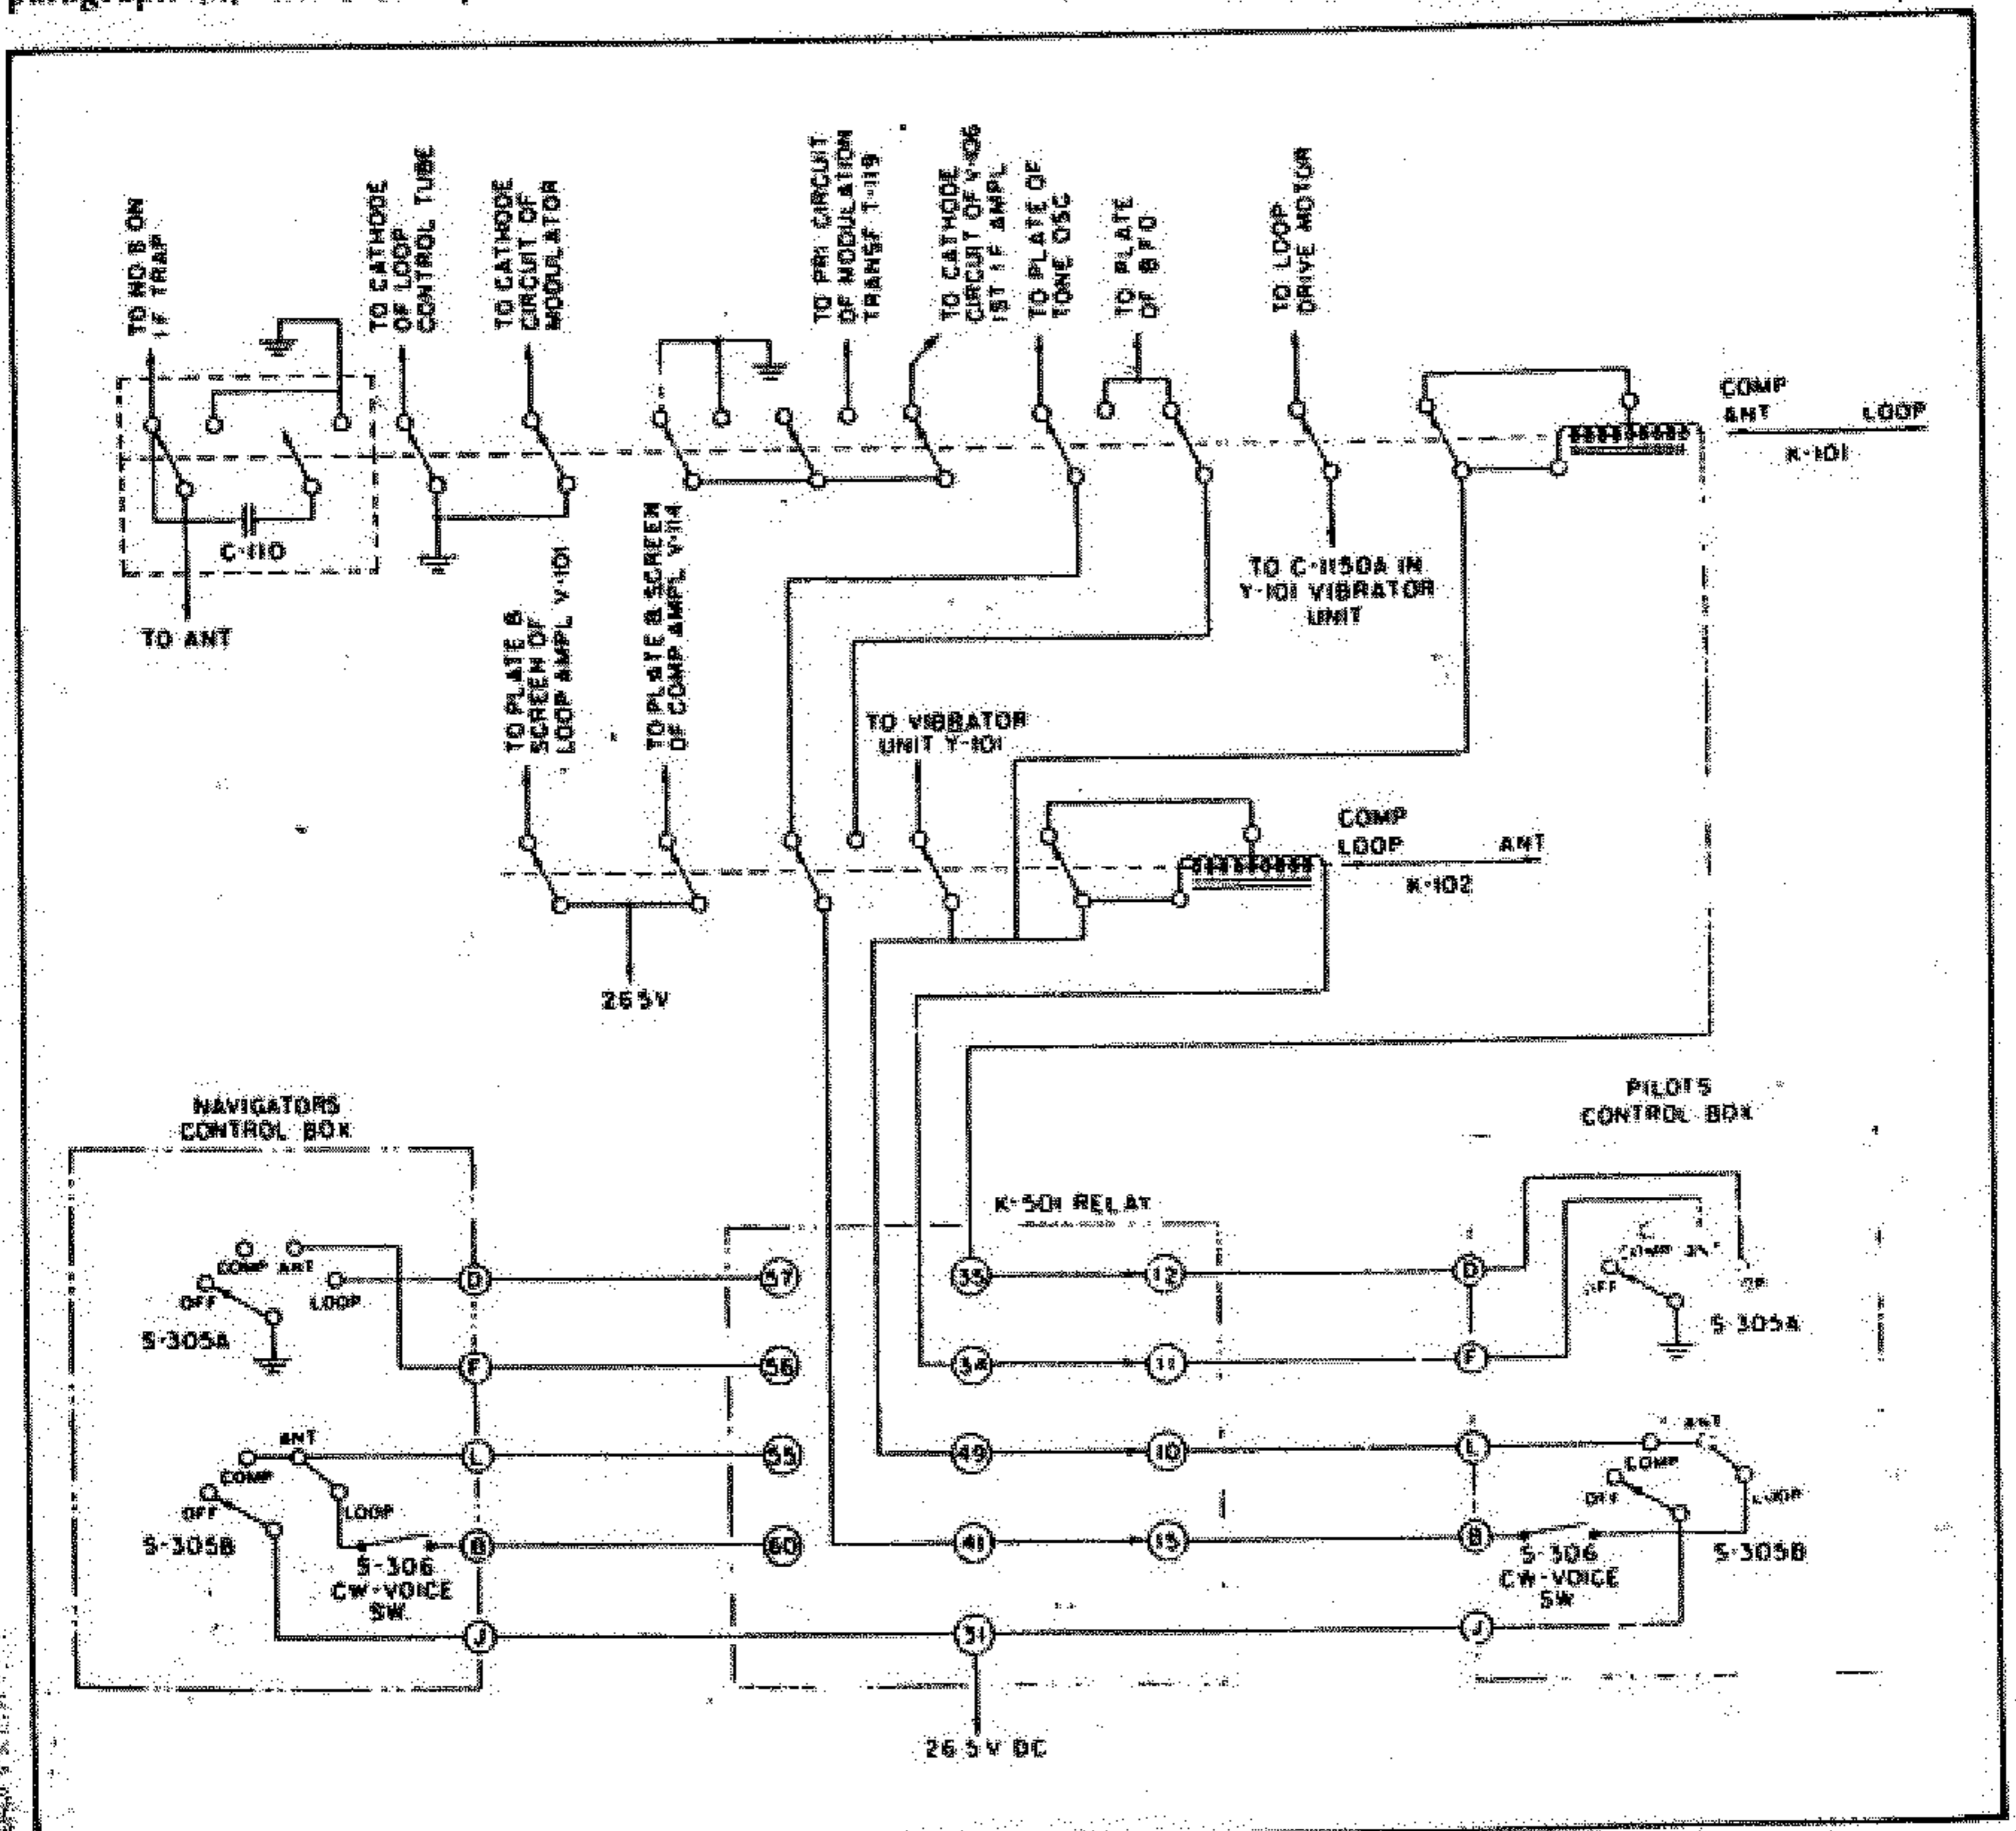
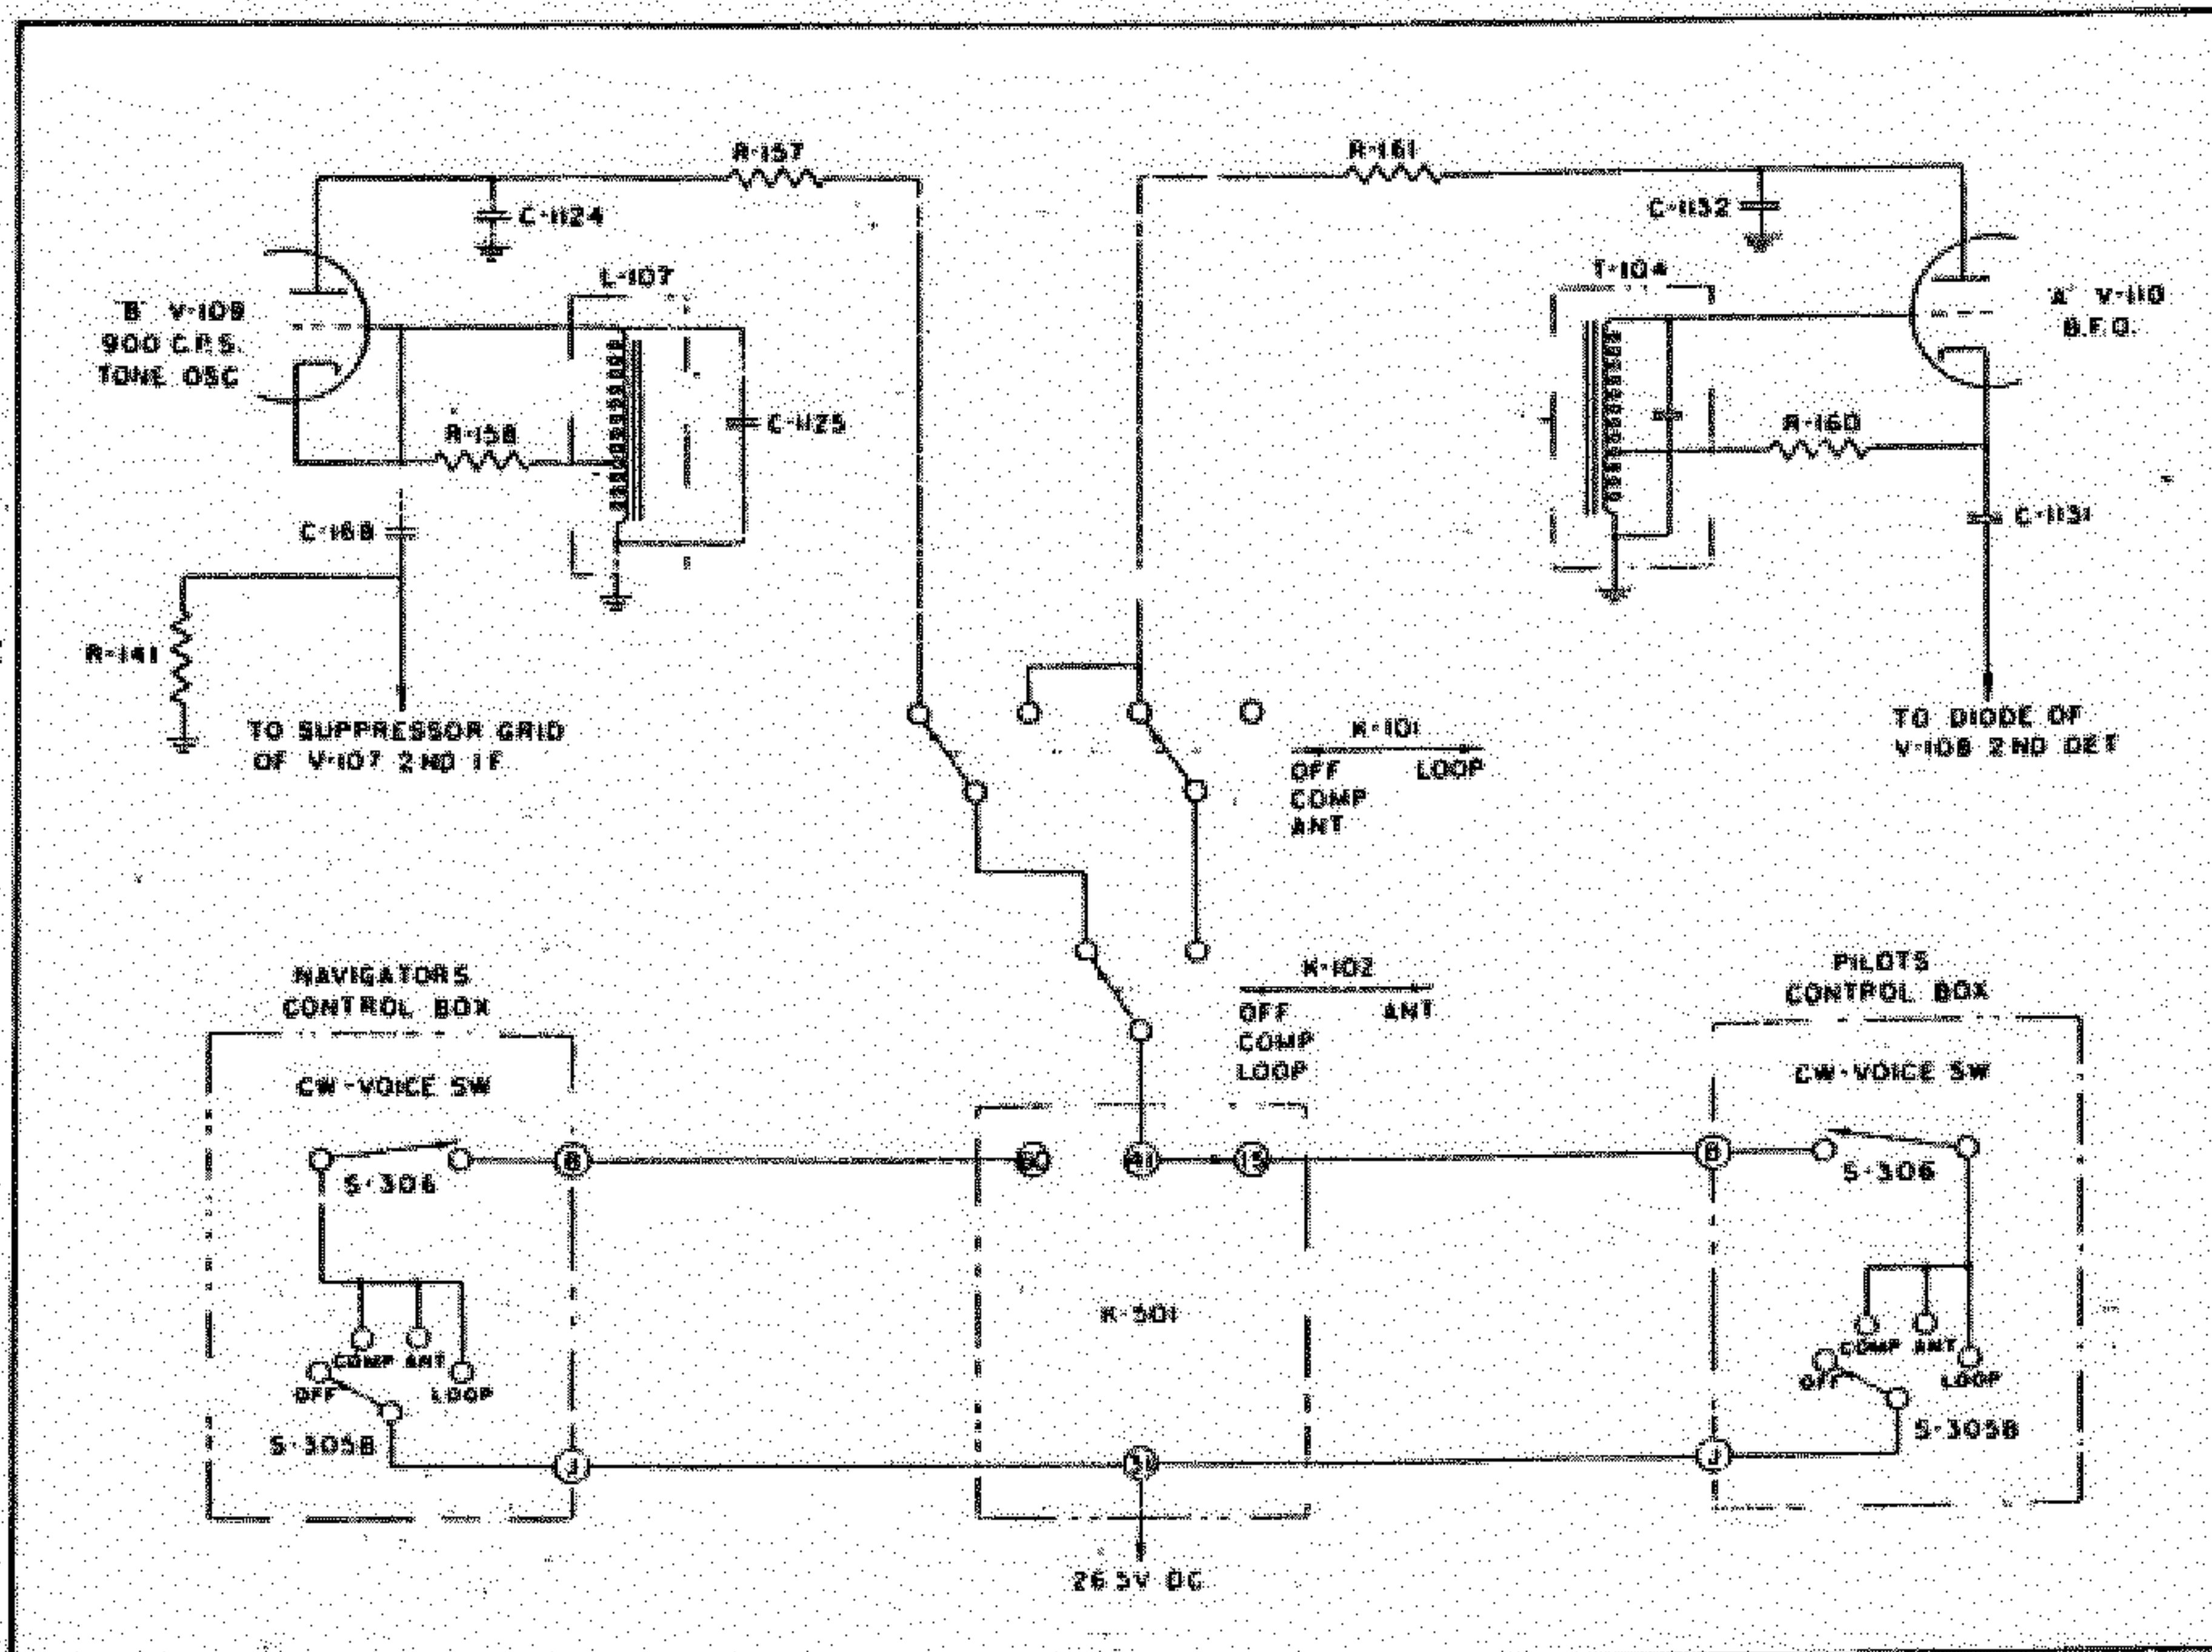
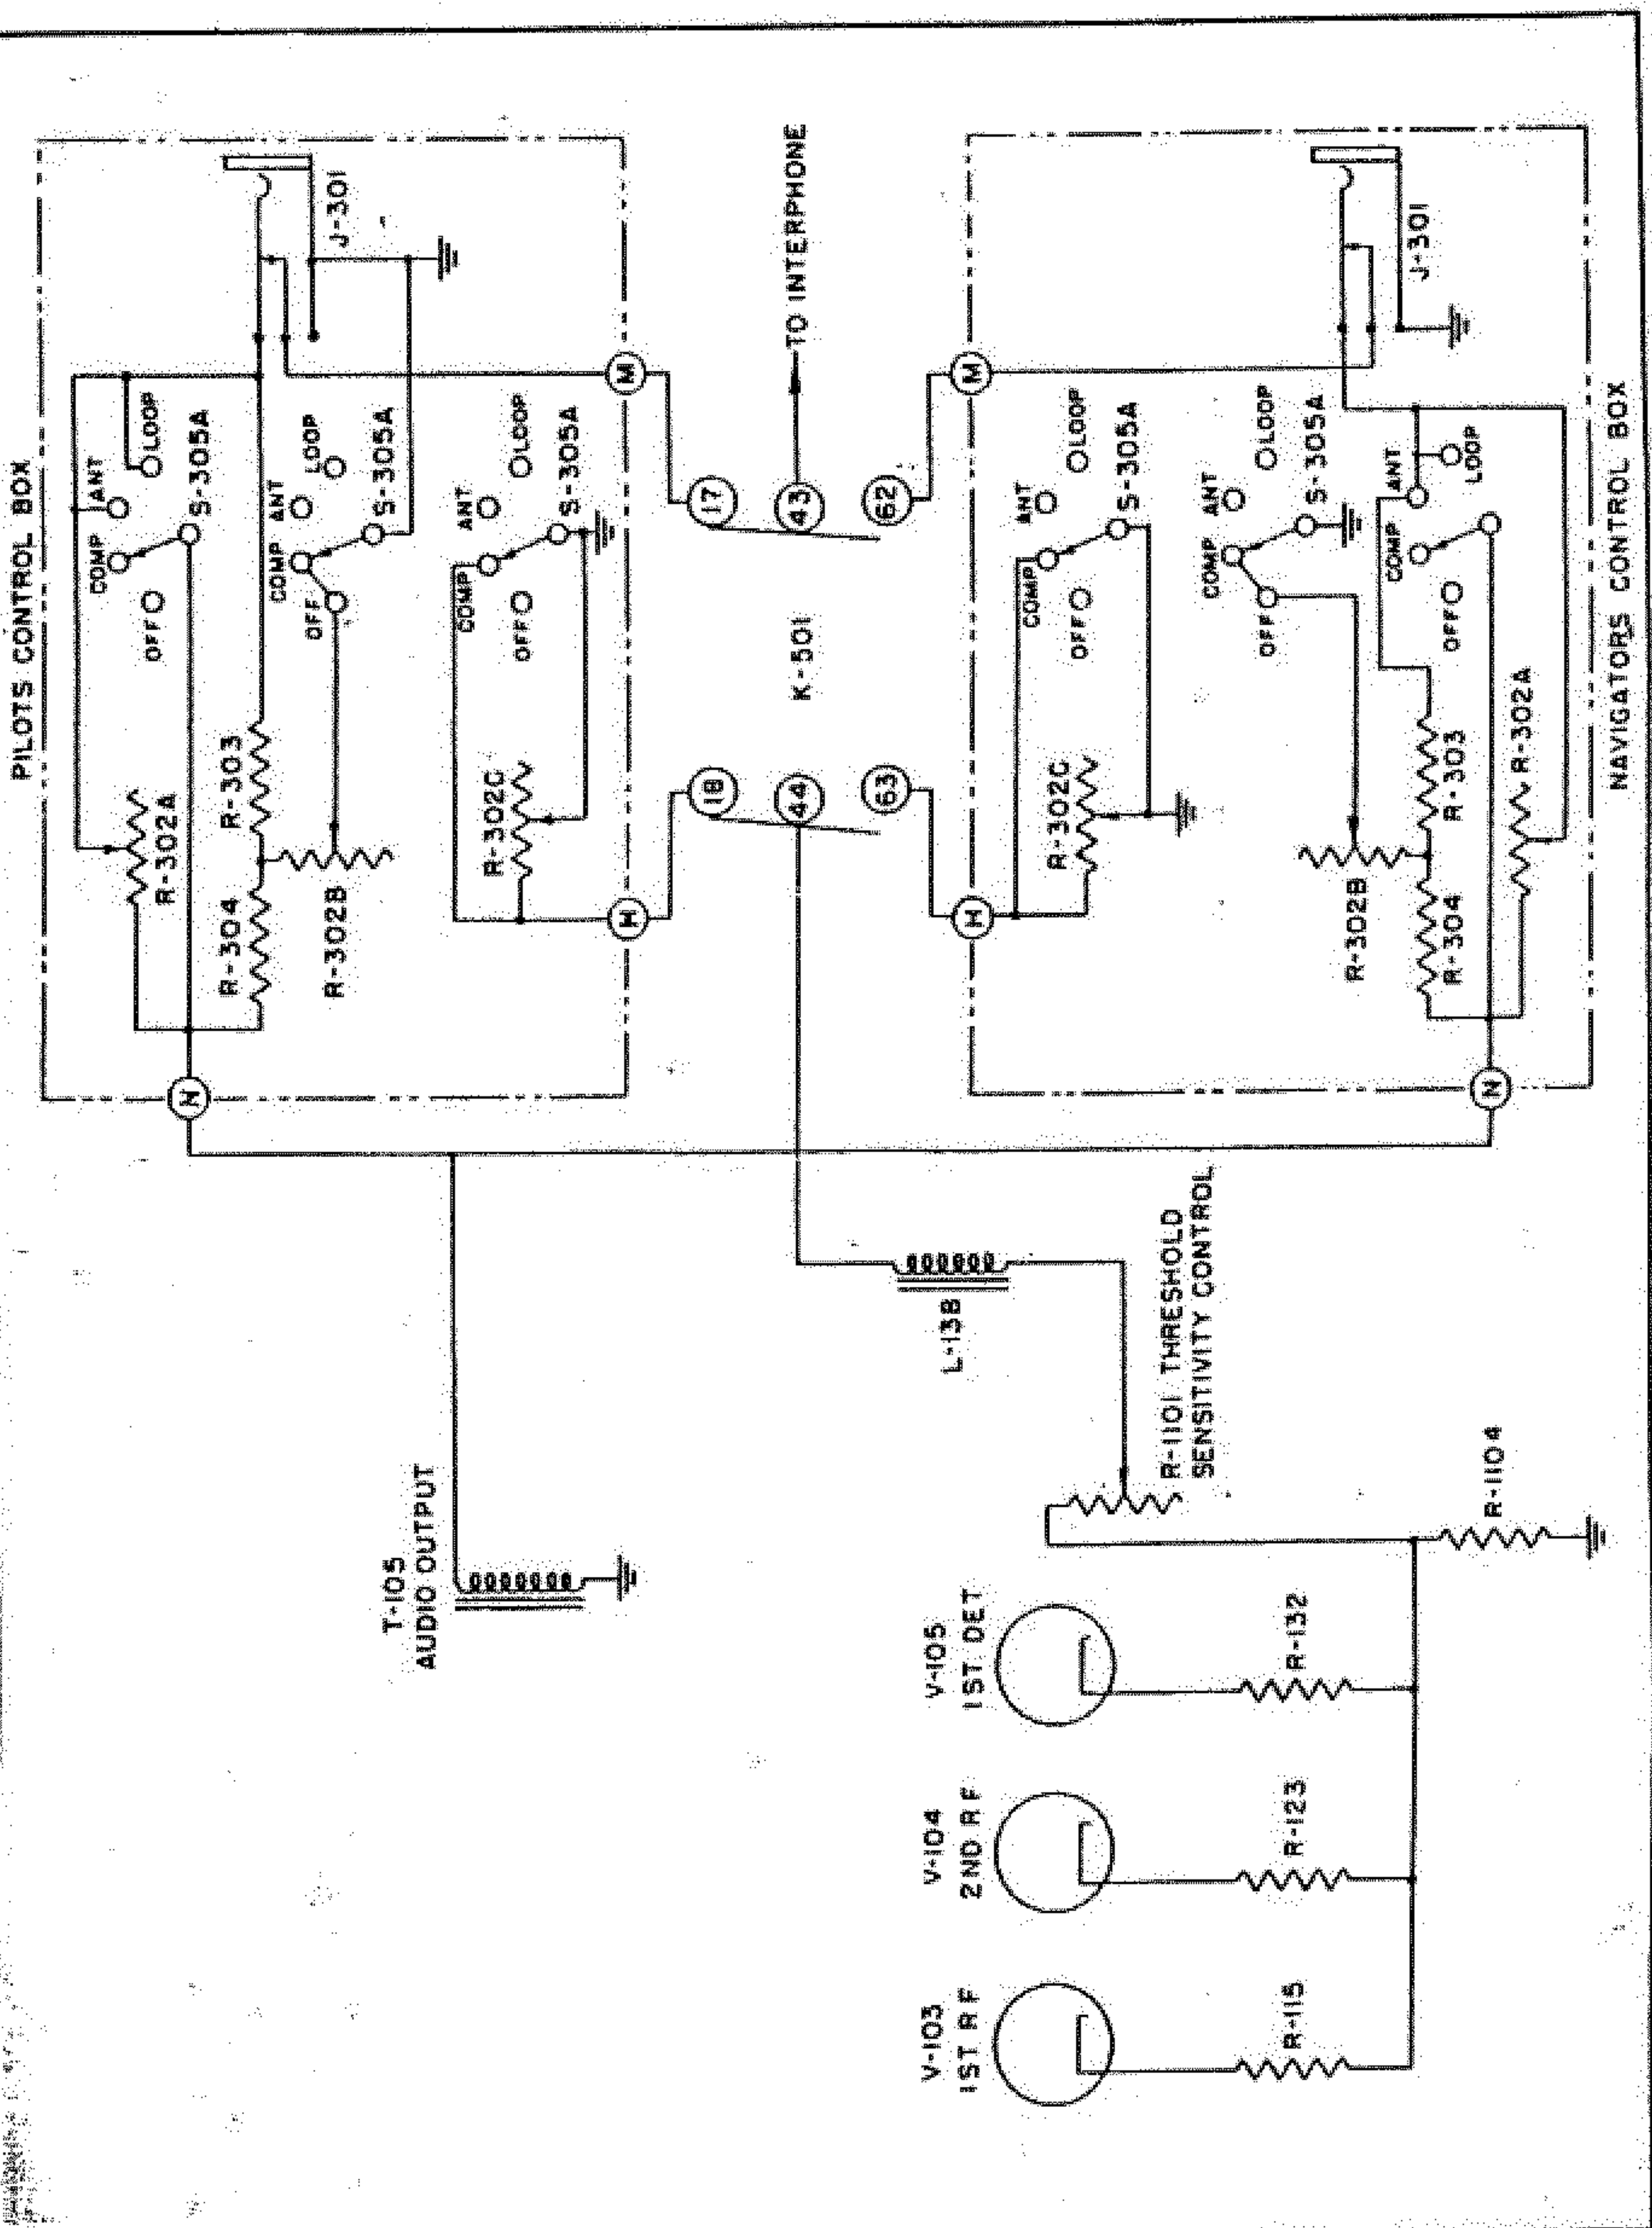

Figure 4-7. Functional Diagram—Antenna and Loop Relay Circuits of Radio Compass Unit R-101/ARN-6
Figure 4-11. Functional Diagram—CW-Voice Circuit of Radio Compass Unit R-101/ARN-6
Figure 4-13. Functional Diagram—Audio and Sensitivity Control of Radio Compress Unit R-101/ARN-6
(5) With the mechanism in band 2 position, if S-303 is now turned back to band 1, the other field winding of B-101 is energized, and the motor rotates in the opposite direction until the proper position is reached.
(6) In this manner, the motor operates for every change of S-303, so that the band-switch mechanism will come to rest in the desired position. It should be noted that the successive positions of the mechanism are in the sequence 1-3-2-4; this sequence is used for better electrical and mechanical design of the RF transformer assemblies.
(7) Every time the motor operates, the portion of the operating voltage which appears across the armature is applied through R-100 to the cathode of V-107, the second IF amplifier; this bias is sufficient to cut the tube off, and is used to silence the receiver during the switching operation.
c. "CW-VOICE" SWITCH AND CIRCUITS. (See figure 4-11 or 4-12.)
(1) The "CW-VOICE" switch S-306 in the control box, when put in CW position, makes provisions for reception of CW signals by one of two different methods.
(2) If compass operation is selected, a 900-cycle audio or tone oscillator (V-109B) is controlled by S-306. This gives suppressor grid modulation of the incoming signal applied in the second intermediate frequency tube, V-107.
(3) If either antenna or loop reception is selected, K-101 or K-102 is operated, so that S-306 controls the beat frequency oscillator V-110A. (See also figure 4-7 or 4-8.)
(4) The tone oscillator is used in compass operation because the amplitude of the tuning meter indication is dependent solely upon the accuracy of tuning. No "zero-beat" exists, to mislead the operator. For other than automatic compass operation, the beat-frequency oscillator is used to make audible the CW signals. In this case, the pitch can be adjusted to suit the operator, by very small motions of the tuning dial. Moreover, it results in better signal-to-noise ratio and leaves no residual modulation when not tuned to a carrier.
d. AUDIO AND SENSITIVITY CONTROLS. (See figures 4-13 and 4-14.)
(1) The method of audio volume control is different for compass operation and ordinary reception;